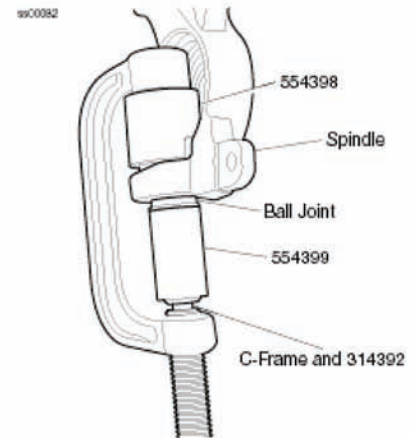

Figure 2. Ball Joint Removal
3. Position 554399 over the stem of the ball joint as shown in Figure 2.